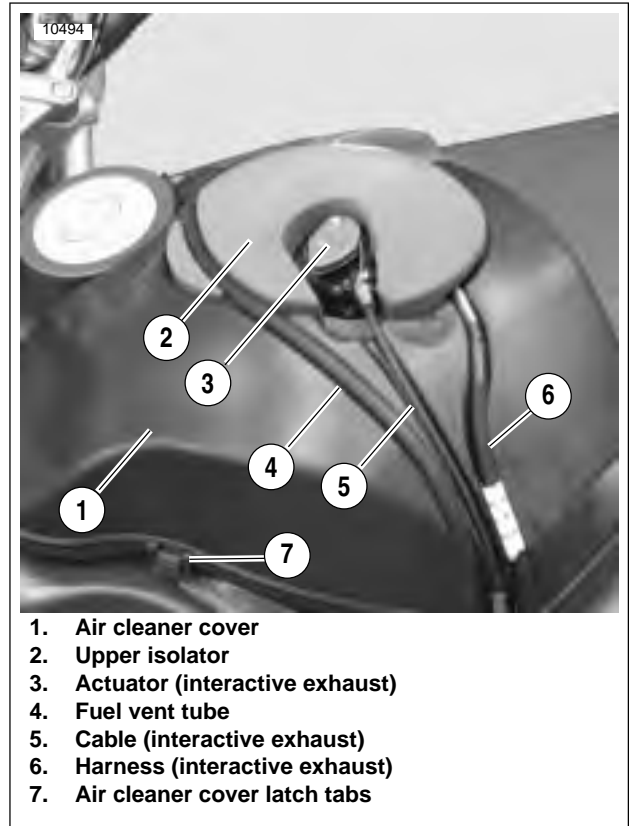
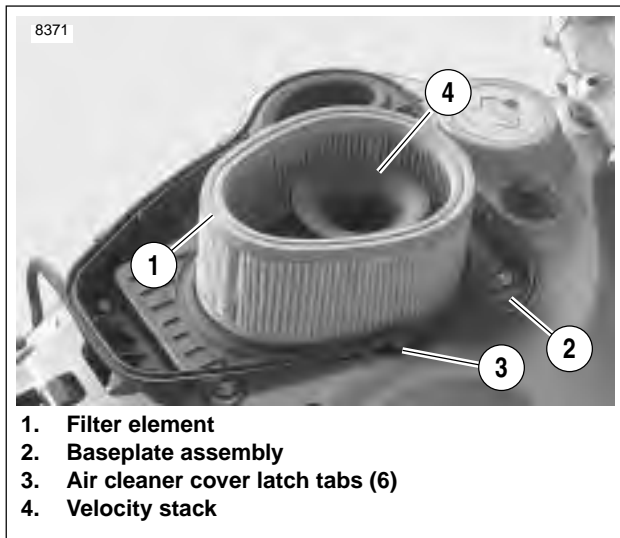

Figure 1-38. Air cleaner cover, Fuel Vent Tube and Fuel Vapor Valve (XB12)
Figure 1-40. Installed Air Cleaner Filter Element
3. See Figure 1-38. Remove fuel vent tube (4) from vapor valve at front of air cleaner cover and groove on top of air cleaner cover (1).
4. See Figure 1-38. Remove upper isolator (2) and actuator (3) along with cable (5) and harness (6) from top of air cleaner cover and lay to one side.
5. Unlatch six latching tabs (7) and remove air cleaner cover from baseplate.
6. See Figure 1-40. Remove the filter element (1) from baseplate (2). Inspect and replace if necessary.
See Figure 1-40. Cover the velocity stack so nothing can drop into the motor.
1. See Figure 1-40. Place filter element (1) on baseplate (2).
2. See Figure 1-38. Position air cleaner cover (1) over baseplate. Make sure air filter remains correctly positioned.
3. Install air cleaner cover by latching six latch tabs (4) to baseplate.